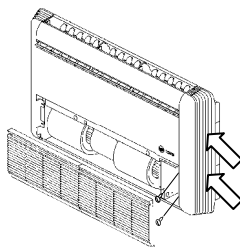
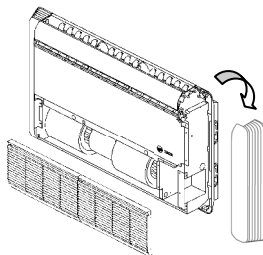

Figure 8
Figure 9
7. Unscrew at the grille bottom hinges, pull out the screw, and unscrew at the side panel front (Figure 8). Then, push down on the side panel front and pull up (Figure 9).